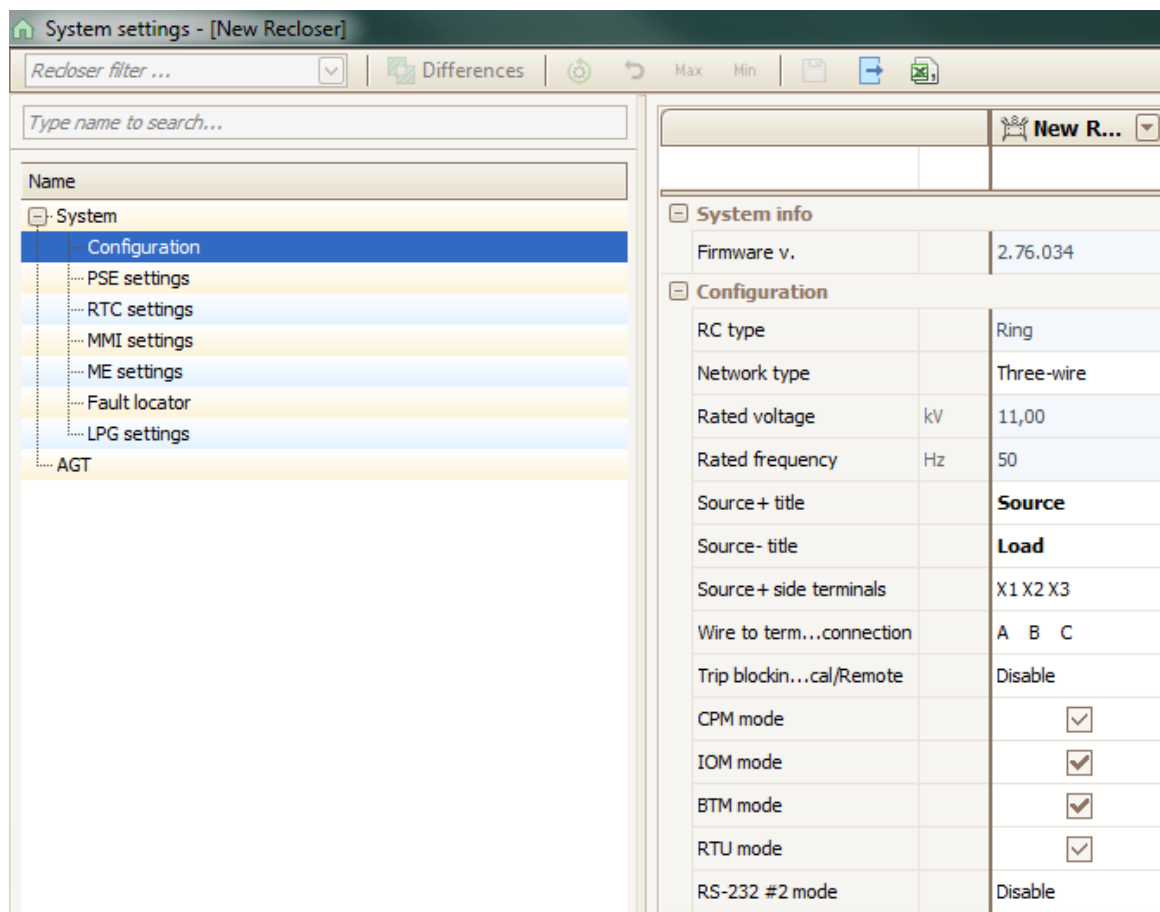

Figure 71
- 3) "System settings" window will popup where it is possible to edit system settings (Figure 71).